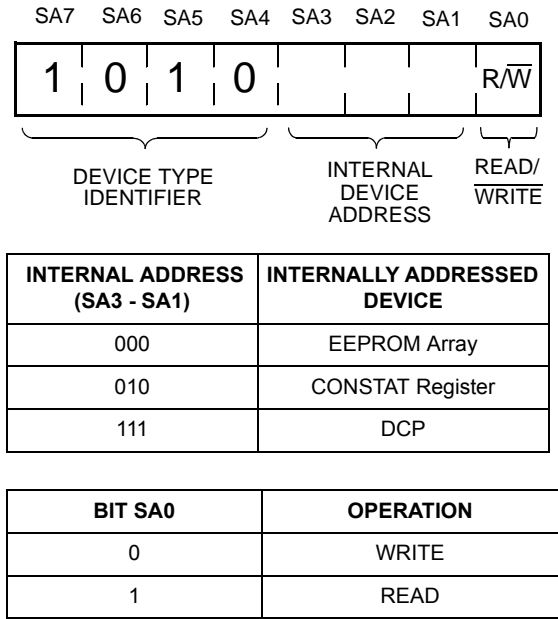

FIGURE 4. SLAVE ADDRESS FORMAT
Following a START condition, the master must output a Slave Address Byte (Refer to Figure 4.). This byte consists of three parts:
- The Least Significant Bit of the Slave Address (SA0) Byte is the R/W bit. This bit defines the operation to be performed on the device being addressed (as defined in the bits SA3 - SA1). When the R/W bit is "1", then a READ operation is selected. A "0" selects a WRITE operation (Refer to Figure 4.)